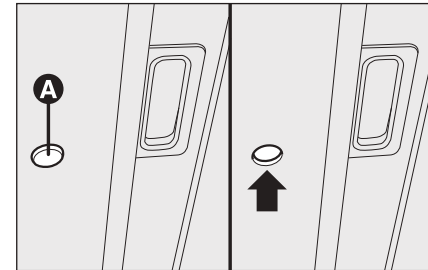

fig. 69
- insert the key into hole **A-fig. 69** and turn it: